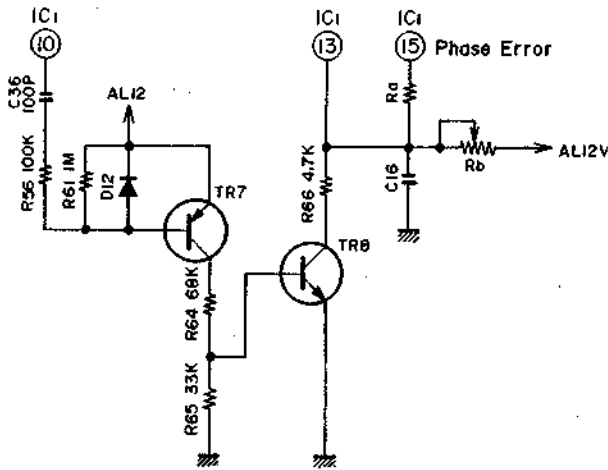

Fig. 12
The circuit shown in Fig. 12 is intended to prevent the Drum motor from being locked at double speed, and when it is being locked at double speed, IC1 ⑩ becomes 'L', TR7 ON, TR8 ON, and IC1 ⑬ is grounded by R66 to prevent the locking.